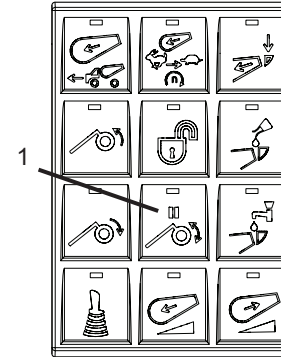

Figure 31
- A Bridgemaster STOP button is on an in-cab keypad and is used to stop axle motion (Figure 31, Item 1).